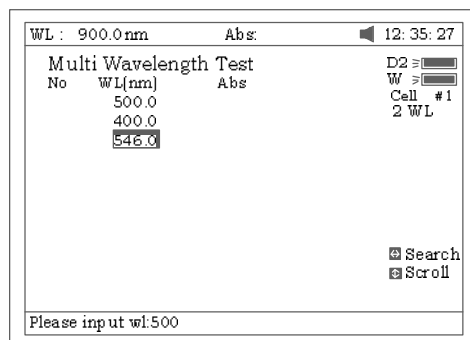

Fig 69
1. Press **【F1】** to setup a group of wavelengths for testing by pressing the numeric keypad followed by **【ENTER】**. (**^**) or (**)** to modify the inputted data Fig. 69. Press **【ESC/STOP】** to finish setup and exit.